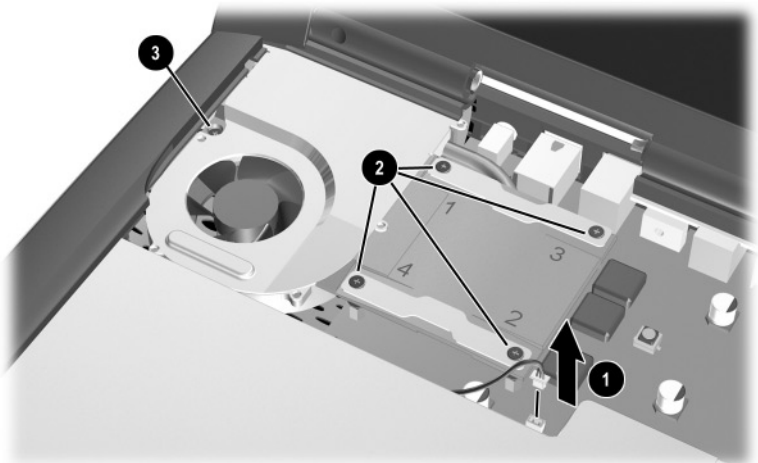

Figure 5-15. Disconnecting the Fan Cable and Loosening the Heat Sink Screws
4. Disconnect the fan cable **1** from the system board (Figure 5-15).